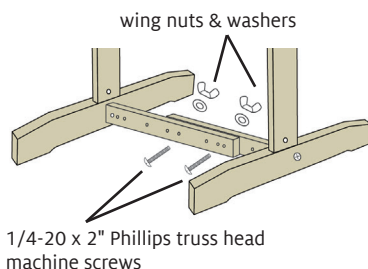

FIGURE 7: SECURE CROSS BRACES
20. Keeping the left cross brace in front of the right cross brace, insert 1/4-20 x 2" Phillips truss head machine screws through the cross braces. On the back of the cross braces, place a 1/4" washer on the screw and secure with a wing nut (Figure 7).